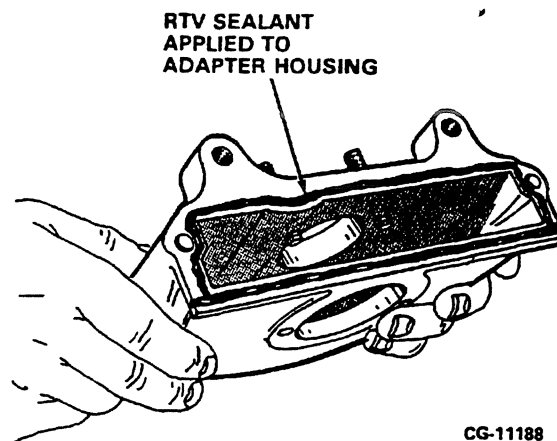

Figure 9.33. R.T.V. Application to
2. Apply a 1/8" dia. bead of R.T.V. sealant into the narrow groove at the bottom and sides of the gear tower; and a 3/16" dia. bead across the front of the gear tower. Refer to Figure 9.33.